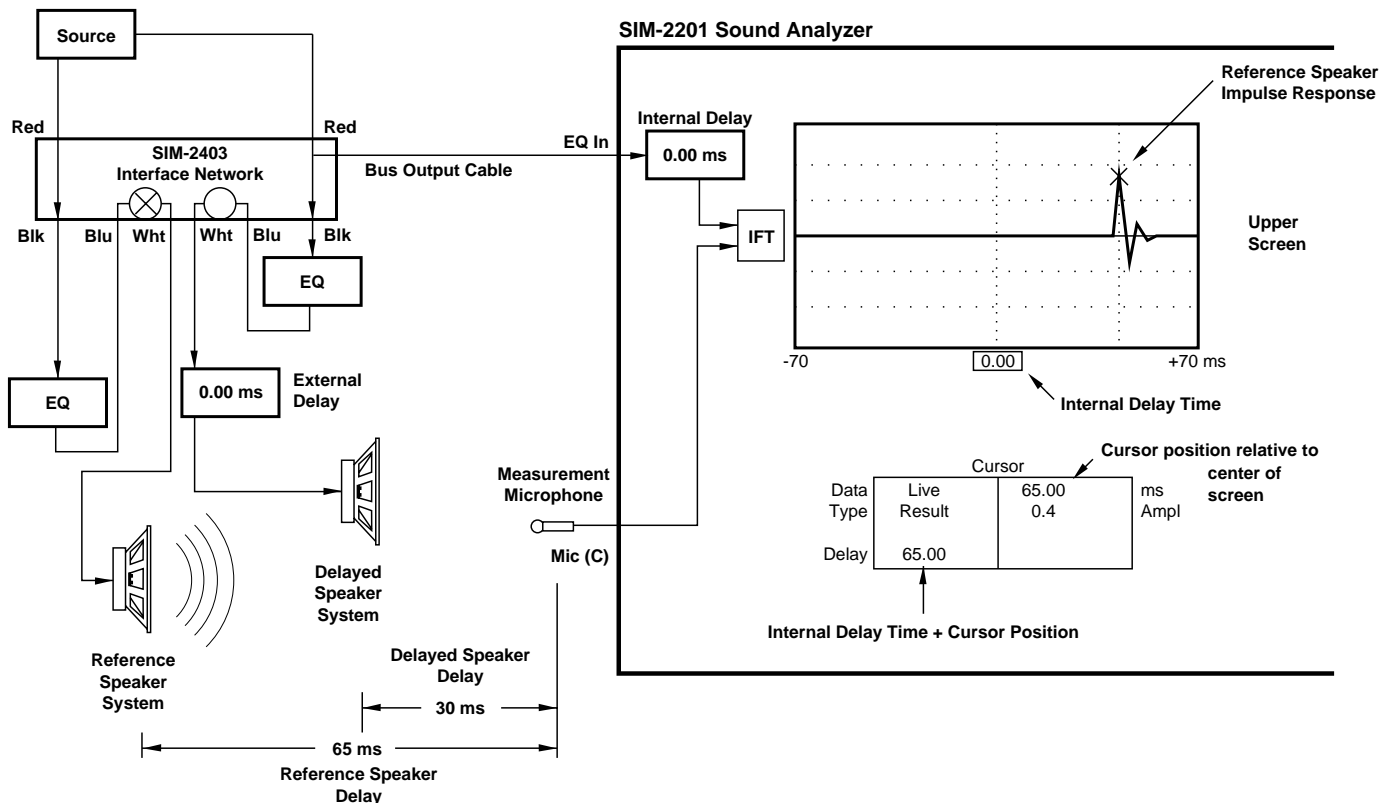

Figure 46a — Before Setting the External Delay. The Reference Speaker is Selected (Step 3).
- 3) Select **Procedure: External Delay**, select **Post-Eq**, and select a Reference speaker. Press **<Enter>**. The Delay finder display should appear as shown in Figure 46a.